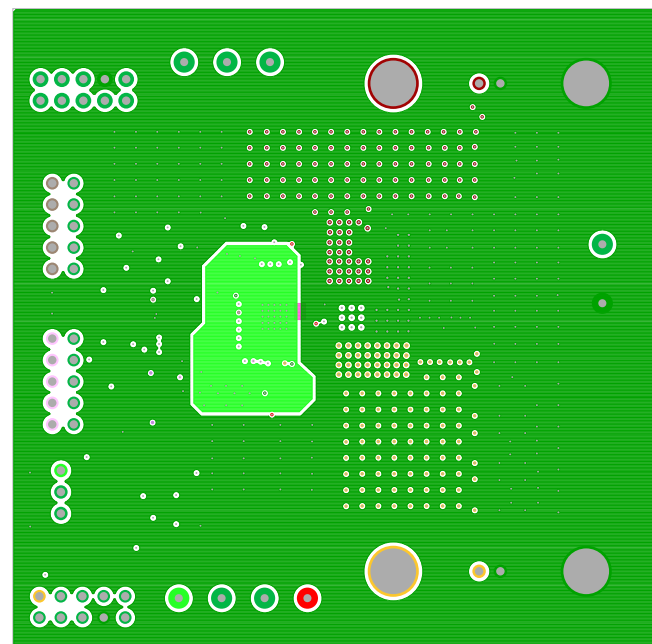

FIGURE 6. LAYER 2
2. SW pad is switching node that generate switching noise. Keep the pad under the module. For noise-sensitive applications, it is recommended to keep SW pads only on the top and inner layers of the PCB; do not place SW pads exposed to the outside on the bottom layer of the PCB. To improve the thermal performance, the SW pads can be extended in the inner layer, as shown in SW pad on layer 3 (Figure 6). Make sure that layer 2 and layer 4 have the GND layers to cover the extended areas of phase pads at layer 3 to avoid noise coupling.